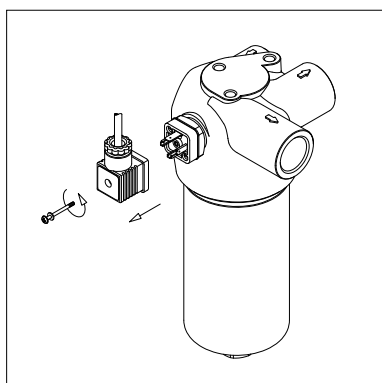
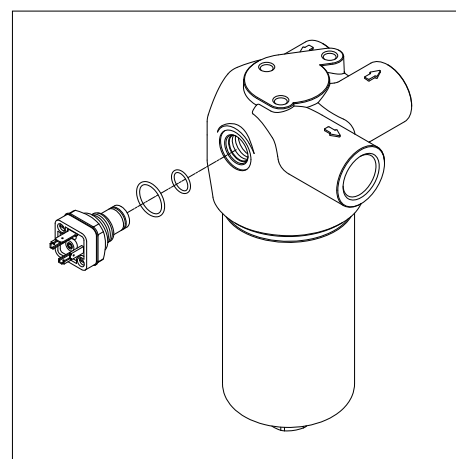

fig. 6
fig. 16
- (Fig. 6) Remove the connector of the differential pressure indicator by unfastening the central screw (only for electrical indicators)
- (Fig. 16) Replace the O-rings of the indicator body. For the mounting/dismounting of the indicator, please refer to the paragraph "Clogging indicator replacement" above (Fig. 6÷9)